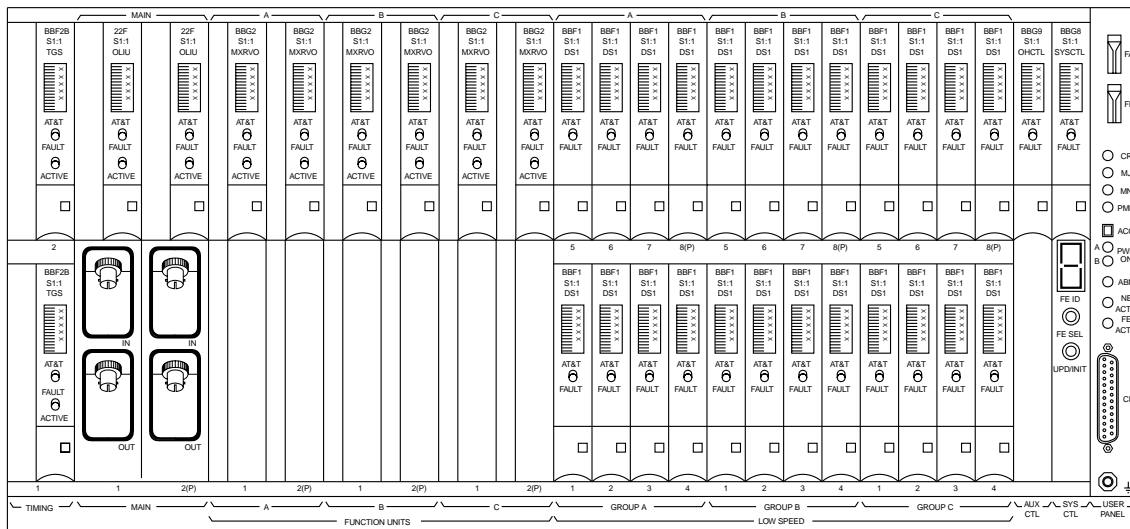

Figure 1. DDM-2000 OC-3/OC-12 Front View
- a. **General Description:** The DDM-2000 OC-3/OC-12 Multiplexer (Figures 1 and 2) is a single-shelf SONET digital multiplexer. It is capable of multiplexing up to 84 DS1 signals, 3 DS3 signals, 3 EC-1 signals, 6 OC-1 signals, or a combination of DS1, EC-1, DS3, and OC-1 signals, into a SONET standard 51.84 Mb/s OC-1, 155.52 Mb/s OC-3, or 622.08 Mb/s OC-12 signal. It can be connected in network configurations such as point-to-point, linear drop, hubbing, add/drop, and self-healing ring.